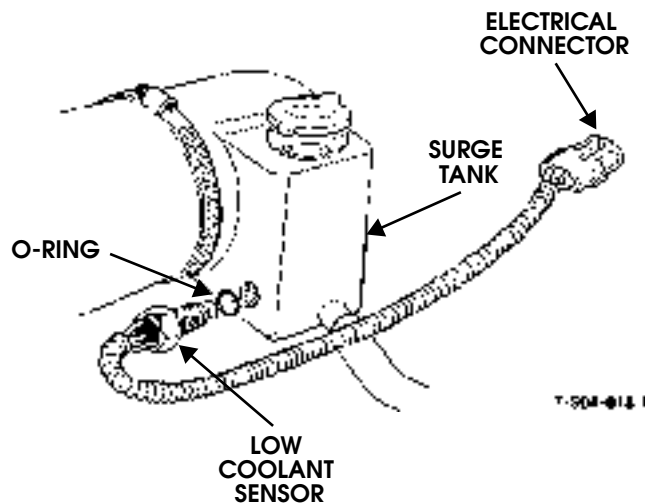

Figure 4-21: Low Coolant Sensor
3. Remove the sensor and O-ring from the surge tank (Figure 4-21)
1. Position O-ring on sensor and thread sensor into surge tank (Figure 4-21).